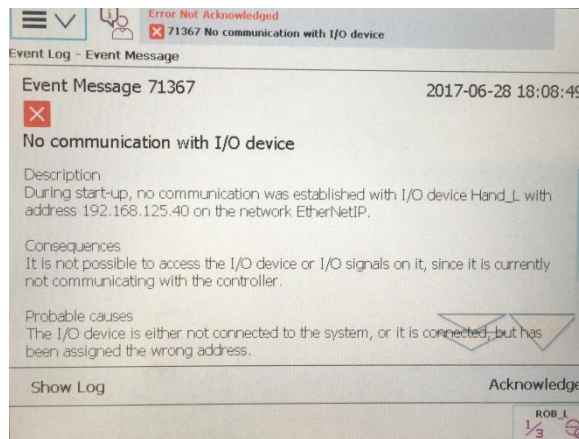

Fig. 1 First event Message in teach pendant.
2. When it appears the figure 1 information, acknowledge and open robotstudio (better 32-bit version).